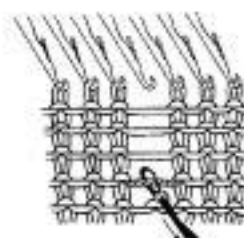

Fig. 38-2
2. Pull the needle back so that the loop closes the latch over the strand caught in the needle hook. (Fig. 38-2)